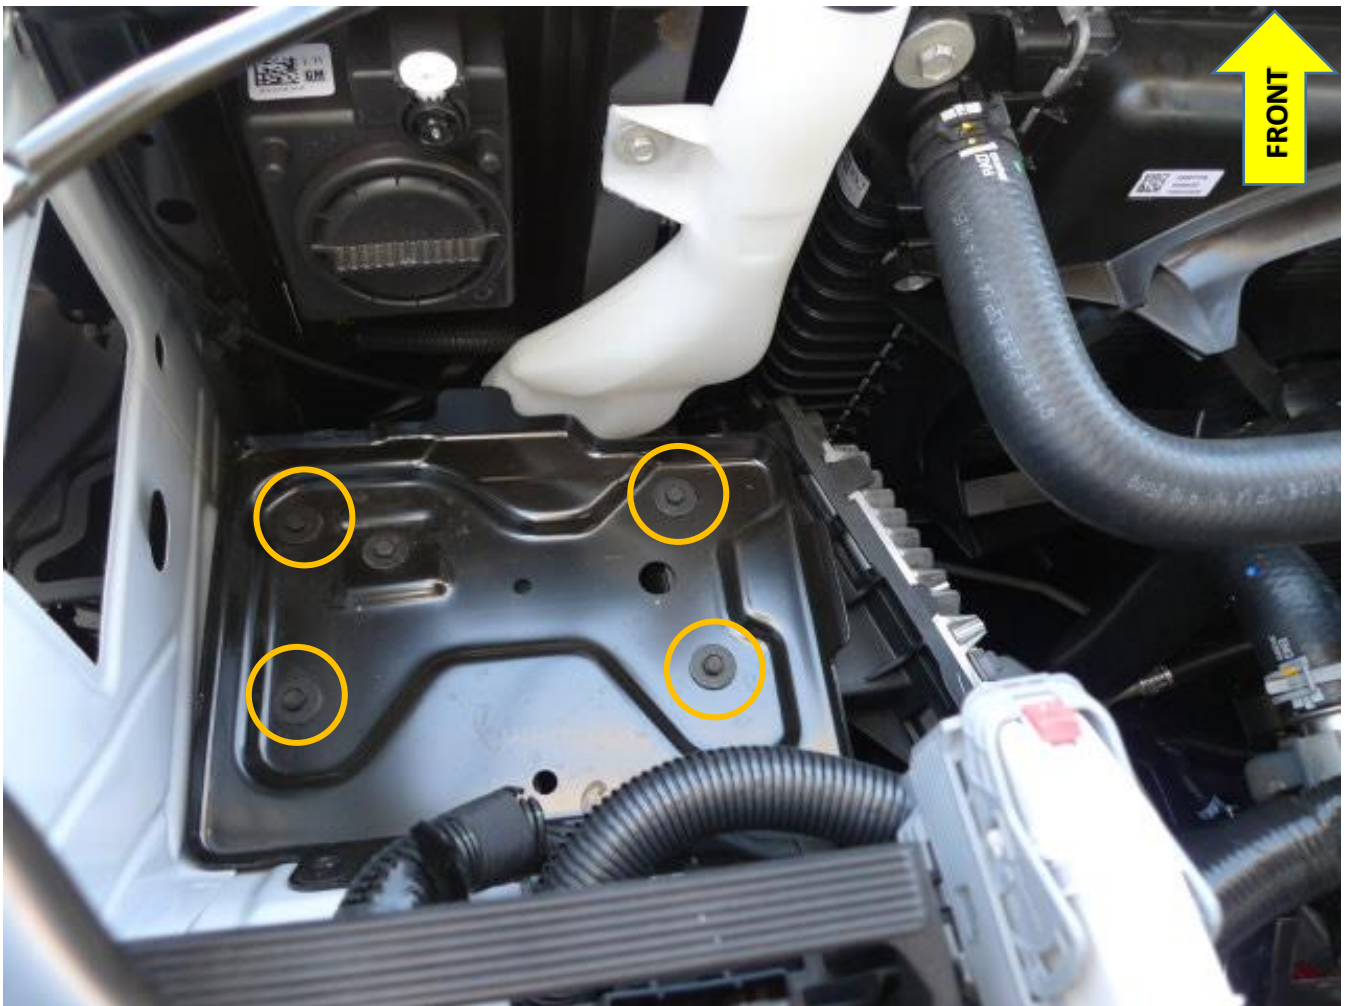

Figure 8 – GM1500-COMP-BRKT and OE 2nd Battery Tray Mounting Bolts to remove
9.1.2. Remove Four (4) OE Bolts securing Battery Tray, as shown in figure 8 below.